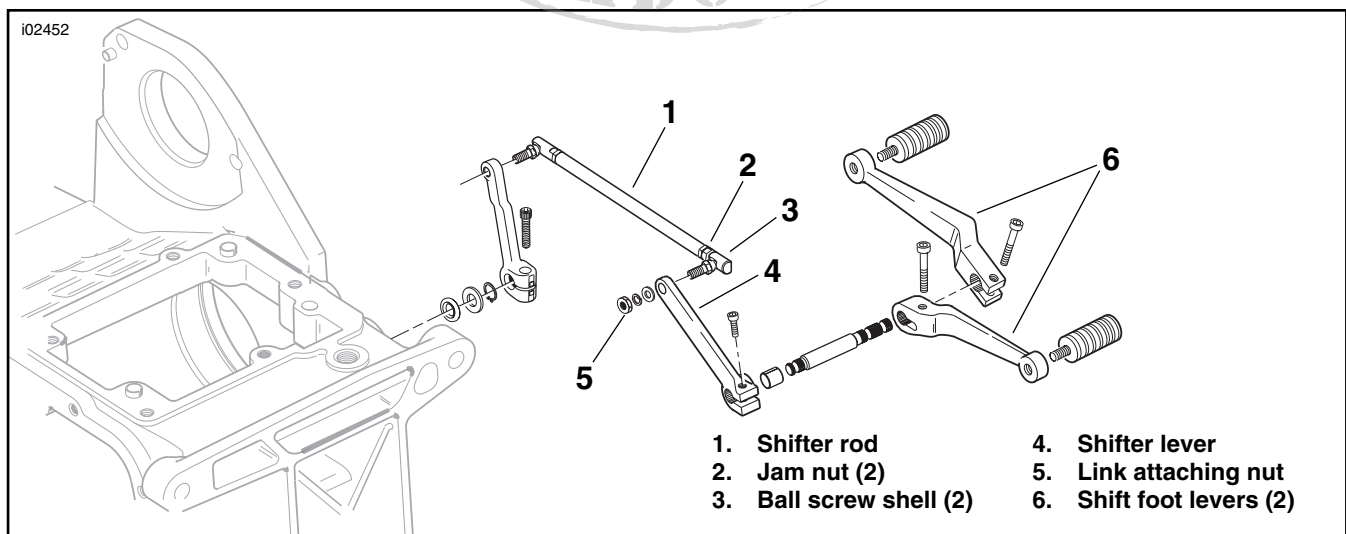

Figure 1. Stock Shifter Linkage
1. See Figure 1, below. Loosen the shifter-rod jam nuts (2).
2. See the Service Parts illustration (Page 2). Fasten a mounting bracket (3) on the bottom side of the shifter rod between the ball screw shell at the rear end of the rod and the jam nut. Torque the jam nut on the shifter rod to 80-120 **in-lbs** (9.0-13.6 Nm).
5. See Figure 1 (below) and SHIFTER LINKAGE, ADJUSTMENT in the Service Manual. To adjust the length of the linkage, remove the link attaching nut (5), lock washer and flat washer at the forward ball screw.
6. Loosen the jam nut (2) at the front end of the shifter rod, and remove the mounting bracket installed in Step 3. Rotate the forward ball screw shell to achieve the proper length to allow mounting of the cover.
9. Fasten the cover (1) to the mounting brackets using the two short screws (2) from the kit. Torque the screws to 8-10 **ft-lbs** (10.8-13.6 Nm).
10. If the linkage needed adjustment (Steps 5 through 7), the position of the shift foot levers (6) may have changed.